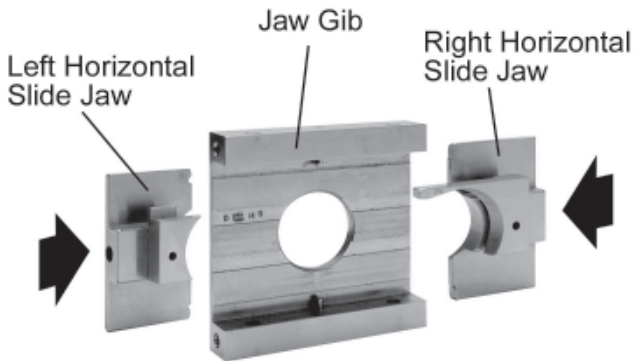

Figure 6a
- 1) Lay the Jaw Gib on a flat surface. Replace the Left and Right Horizontal Slide Jaws. *(Fig. 6a & 6b page 18)*